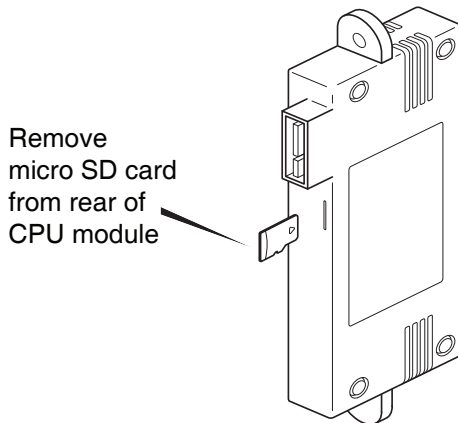

Fig 3 Removing micro SD card from plug-in CPU module
- a. The easiest and fastest technique is to unplug the CPU module from the Hazardous area Pageant Operator Panel and remove the micro SD card as shown in Fig 3.